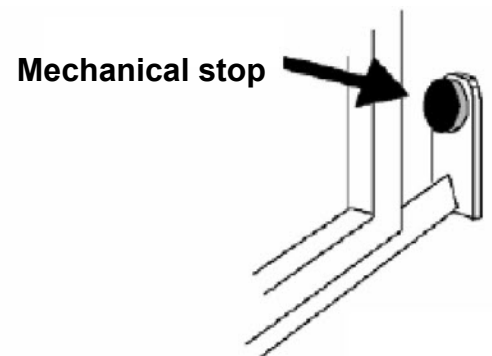
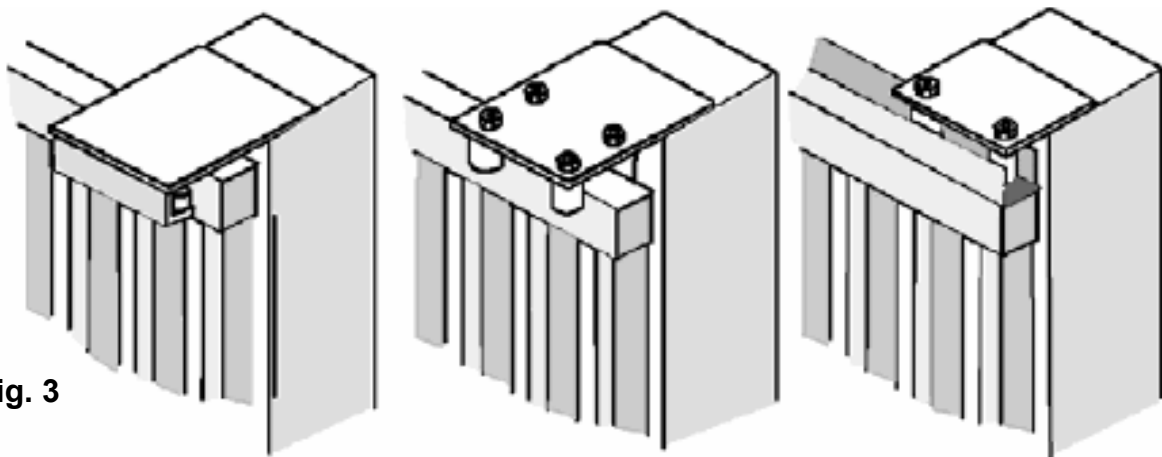
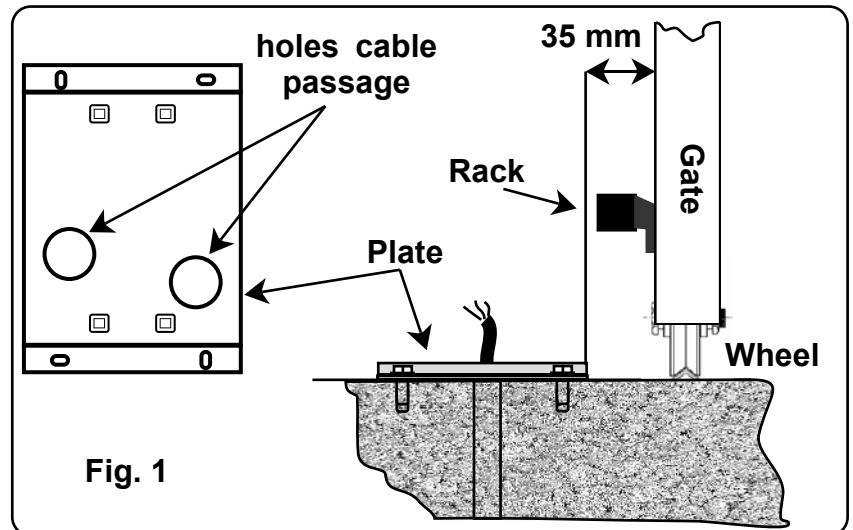

Fig. 2
Fig. 3
Fig. 1
- Also check that the runner on the ground (**Fig. 1**) is not deformed, is perfectly level and that the mechanical stop is present on opening (**Fig. 2**) in order to **prevent** the gate from going beyond the upper runners (**Fig. 3**)
- Check the upper runner (**see Fig. 3**) is firm and the gate slides freely.
Position the plate provided **(Fig. 1)** 35 mm/MAX from the edge of the gate and perfectly square at an angle of 90°.